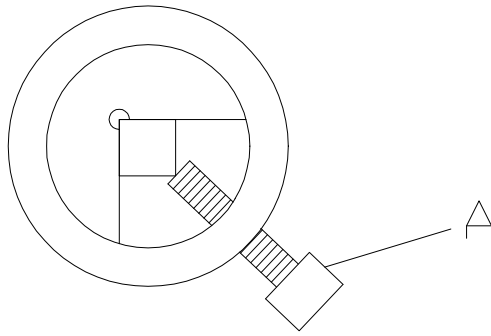

FIG. 6-1B
1. PUT ELECTRODE INTO HOLDER AND FIX IT BY THE SCREW A(IN FIG. 6-1B).